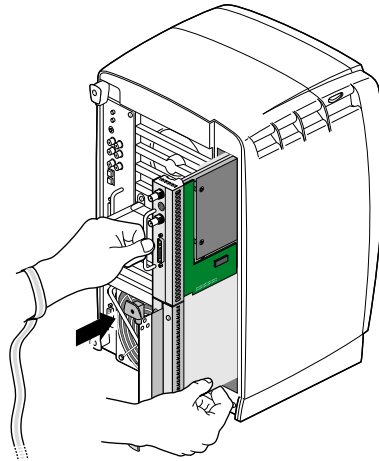

Figure 2-16 Inserting the XIO Tri-Module
Caution: Install the XIO Tri-Module with the VPro Graphics I/O panel aligned with the top of the workstation, as shown in Figure 2-16. The board can be damaged if aligned with the bottom of the workstation.
3. Before you insert the XIO Tri-Module, make sure the sliding handles protrude in a locked position from the I/O panels, as shown in Figure 2-16.
If the sliding handles are flush with the I/O panels, the XIO Tri-Module will stop during insertion. Pull out the sliding handles until the sliding portion of the XIO Tri-Module looks like Figure 2-16.